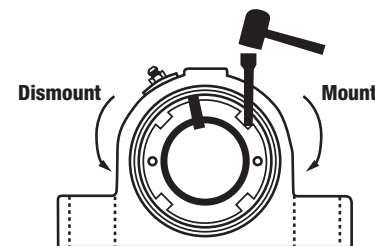

Figure 3
4. (Figure 3) Rotate locknut counterclockwise until bearing freely slides from the shaft.